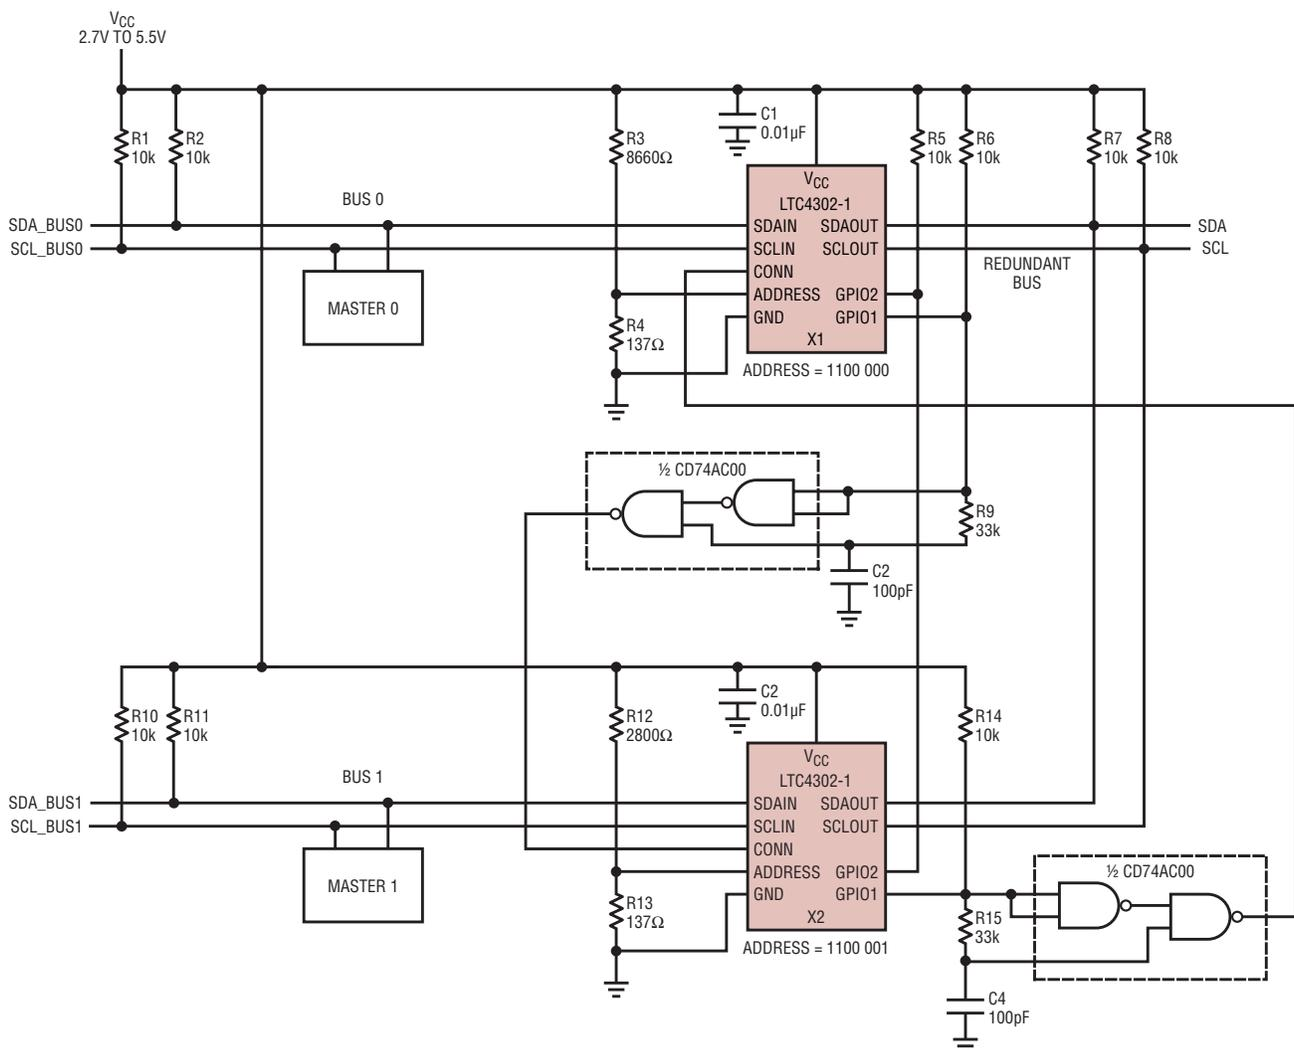

Figure 2. Alternate implementation of two LTC4302s in a redundant bus application, with lock-up prevention circuitry.
Figure 2 shows an alternative approach to solve this problem. Each master can take control of the redundant bus using a single Write Byte operation. For example, Master 0 commands its LTC4302 to connect
**Figure 2. The before-and-after of adding clamping and snubbing to a hot swapped card, plugged into a -48V power distributed bus, under conditions of insertion and circuit breaker action.**